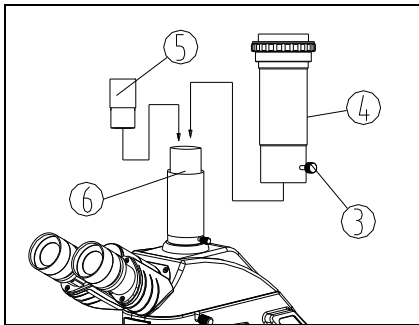

Fig. 25
3. Loosen the lock-screw ③ on the photo tube and get down the photo tube ④ (see Fig.25).
4. Insert the photography eyepiece 3.2X ⑤ to the eyepiece base ⑥. Insert ④ and screw on the ③ tightly.